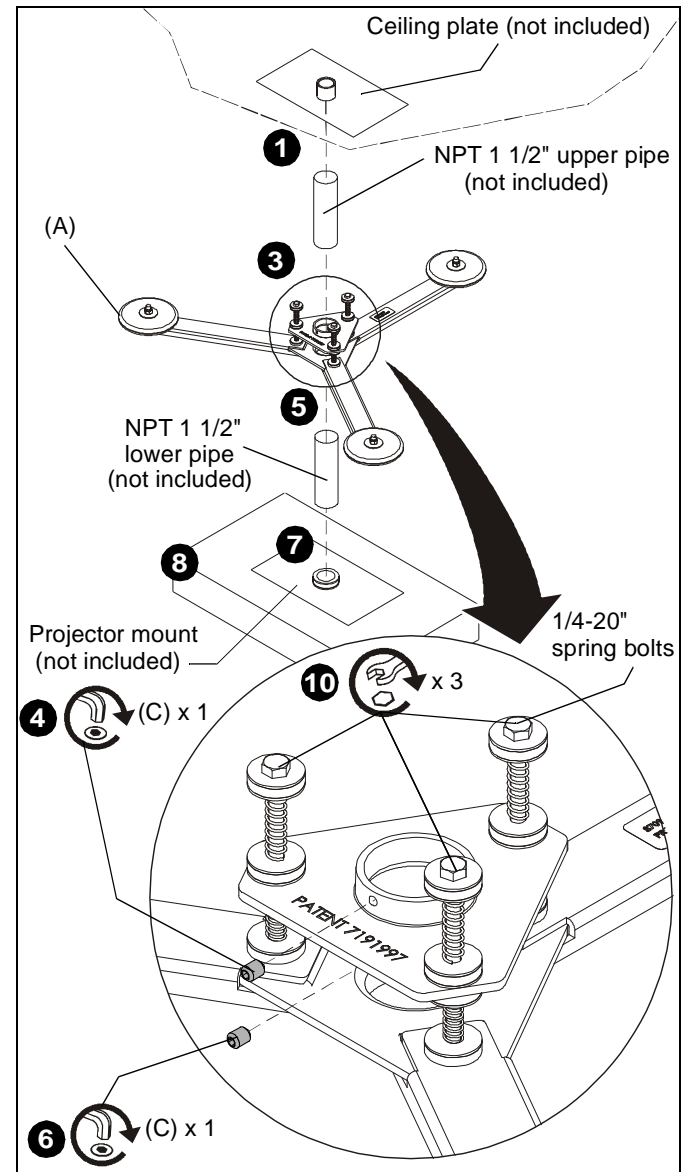

Figure 1
1. Thread NPT 1 1/2" upper mounting pipe (not included) into ceiling plate (not included). (See Figure 1)
2. Secure NPT 1 1/2" upper mounting pipe to ceiling plate following the installation instructions provided with the ceiling plate (not included). (See Figure 1)
3. Thread top of CMA347 mount (A) onto NPT 1 1/2" upper mounting pipe. (See Figure 1)
4. Secure NPT 1 1/2" upper mounting pipe to CMA347 mount (A) using one 10-24 x 1/4" socket head set screw (C). Turn set screw (C) until it contacts thread of NPT 1 1/2" upper mounting pipe. (See Figure 1)
5. Thread NPT 1 1/2" lower mounting pipe (not included) into bottom of CMA 347 mount (A). (See Figure 1)
6. Secure NPT 1 1/2" lower mounting pipe to CMA347 mount (A) using one 10-24 x 1/4" socket head set screw (C). Turn set screw (C) until it contacts thread of NPT 1 1/2" lower mounting pipe. (See Figure 1)
7. Thread projector mount (not included) onto lower NPT 1 1/2" lower mounting pipe. (See Figure 1)
8. Secure NPT 1 1/2" lower mounting pipe to projector mount following the installation instructions provided with the projector mount (not included). (See Figure 1)
10. With the weight of the installation on the CMA-347, tighten the 1/4-20" spring bolts until a slight preload is on the springs. (See Figure 1)